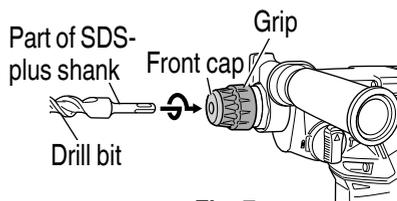
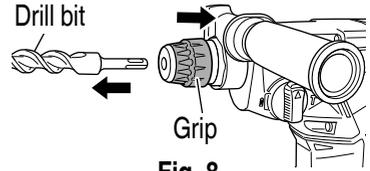

Fig. 7
Fig. 8
- (1) Turn the grip of the side handle to loosen it and push it in until it comes in contact with the housing.
- (2) Adjust the side handle to the angle that allows the easiest use, then turn the side handle's grip firmly to lock it place.
3. Mounting the drill bit (**Fig. 7, Fig. 8 on page 44**)
- (1) Clean the shank portion of the drill bit.
- (2) Insert the drill bit in a twisting manner into the tool holder until it latches itself. **(Fig. 7 on page 43)**
- (3) Check the latching by pulling on the drill bit.
- (4) To remove the drill bit, fully pull the grip in the direction of the arrow and pull out the drill bit. **(Fig. 8)**